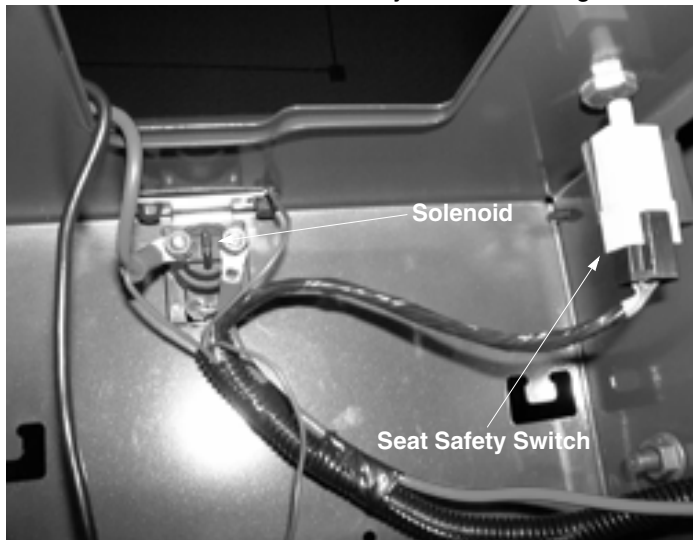

Figure 1
3. Disconnect both red cables, green wire and orange wire from solenoid. Solenoid is mounted to the frame behind the battery box opening. It is accessible through the battery box opening. Be sure not to lose the star washer located between the green wire and the frame. Unplug connector from the seat safety switch. See Figure 1.